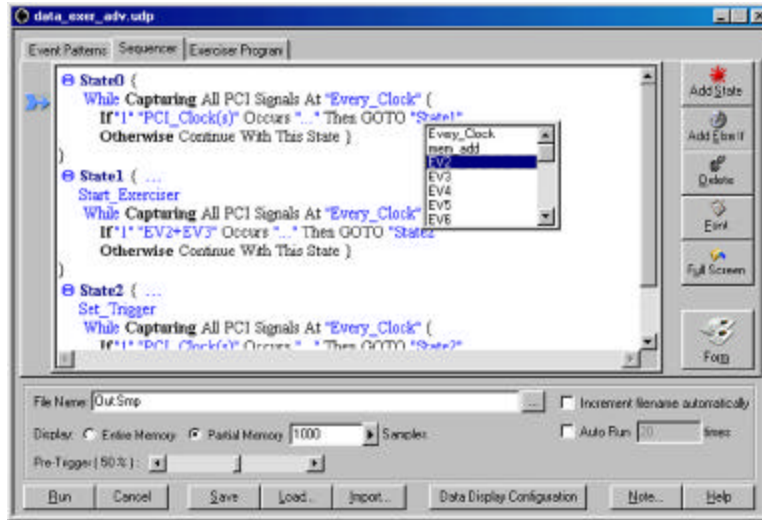

Figure 62 Changing the Programmable Parameters
1. Position the display cursor over the parameter and double click the left mouse button to open a list box with available choices for that parameter. See Figure 62.